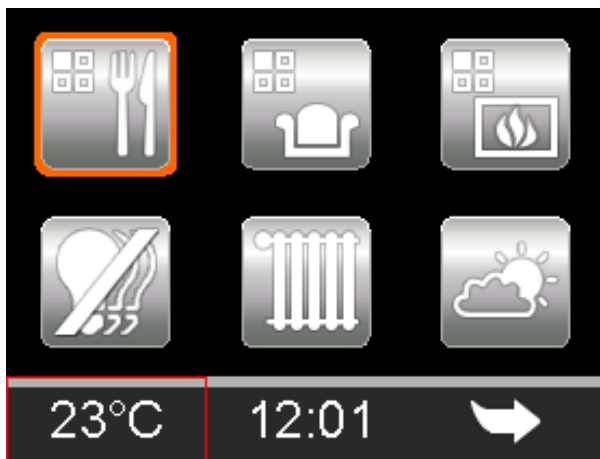

Figure 15: Administration mode activation area
* by pressing for longer than 5 s on the lower left-hand side of the Home page screen (see Figure 15)